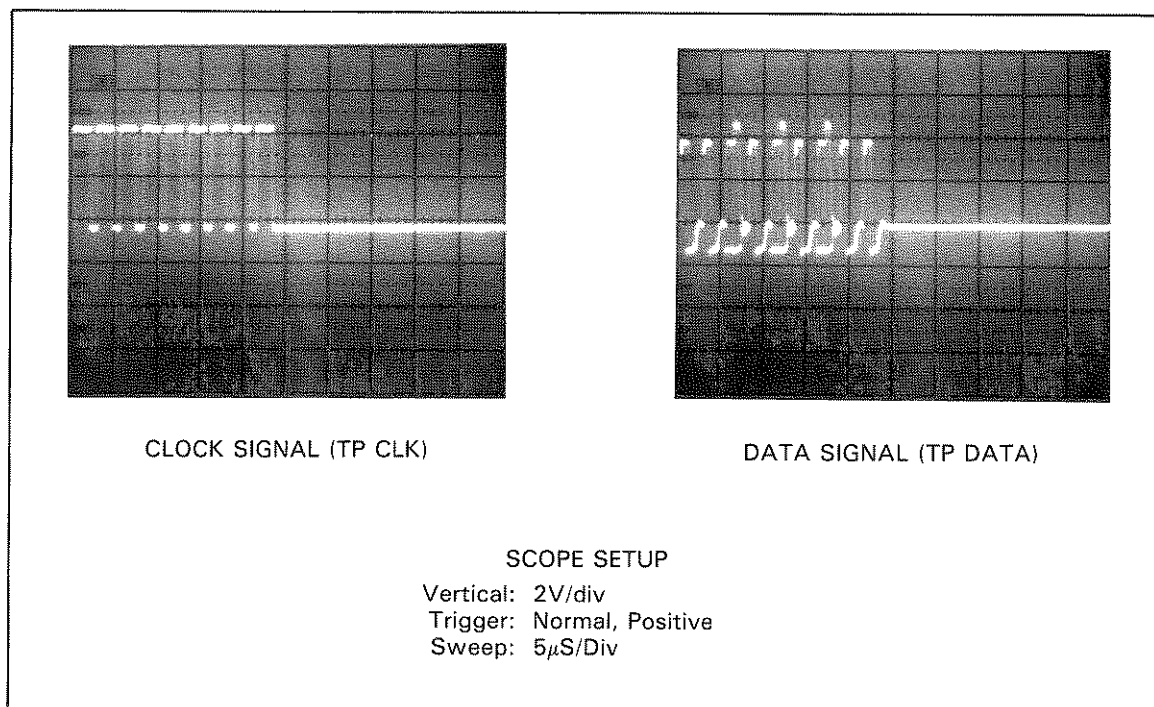

Figure 8-A1-3. Inguard Crossguard Clock and Data Signals
- 1. Check for clock and data signals at TP CLK and TP DATA, respectively. Use an oscilloscope to check for the signals shown in Figure 8-A1-3. Use the scope set-up information given in the figure to configure the scope.